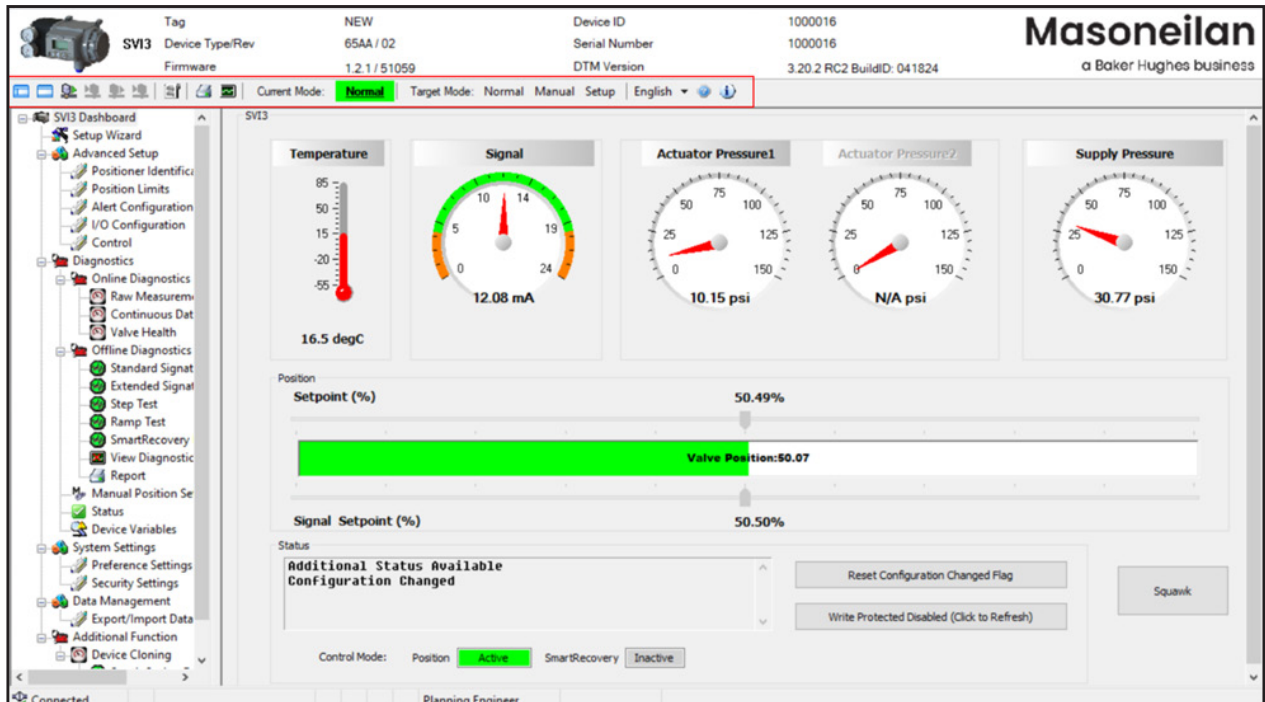

Figure 22 - SVI3 Advanced DTM Main Screen
This section describes the SVI3 Advanced DTM main screen (*SVI3 Dashboard* screen) and how to accomplish general SVI3 Advanced DTM tasks. After you have successfully launched and logged into the SVI3 Advanced DTM Figure 22 appears.
Use this area located at the top of all *SVI3 Advanced DTM* screens (Figure 22 - ①) to view the current status of the SVI3 and to change the operating mode.